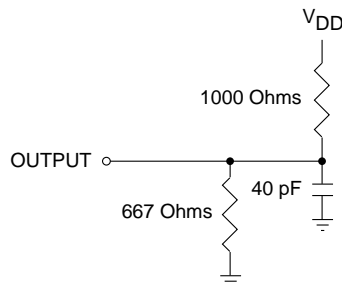

Figure 2. Output Load
3. Transition is measured  $\pm 500\text{mV}$  from low or high voltage with load (see Figure 2).